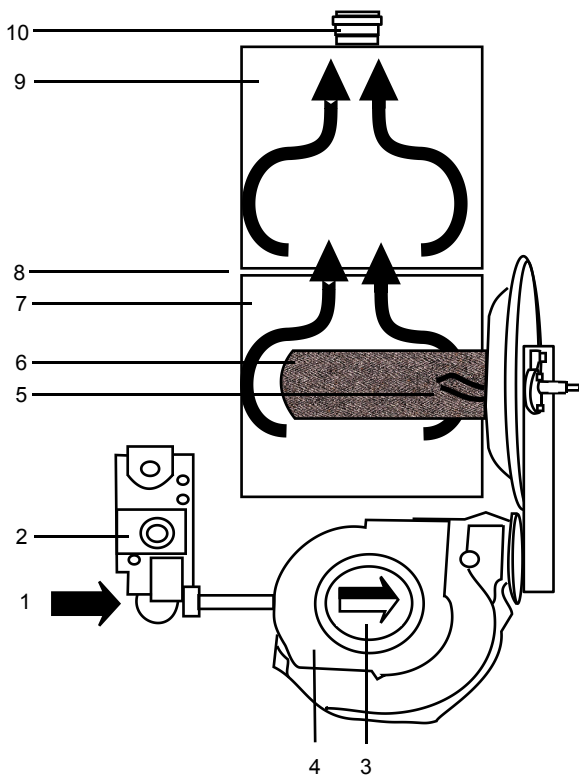

Fig 1 Diagram of operating principles
The CG is a wall-mounted condensing boiler with stainless steel counter flow twin heat exchangers (the CG 60 has a single heat exchanger), pre-mix gas burner and integral flue products fan (refer Figs 1 and 2). When operating in condensing mode with a flow of 50°C and a return of 30°C, it will give efficiencies of up to 109.5% (ncv). Gas is supplied through a zero governor valve (2). The air intake fan (4) and venturi (3) accurately control the volumes of gas and air and mix them prior to ignition. A small flame is held on the entire surface of the burner combustion head (6). This ensures that there is optimum combustion at any point in the modulation range of the boiler.
#### Key to Figs 1 & 2